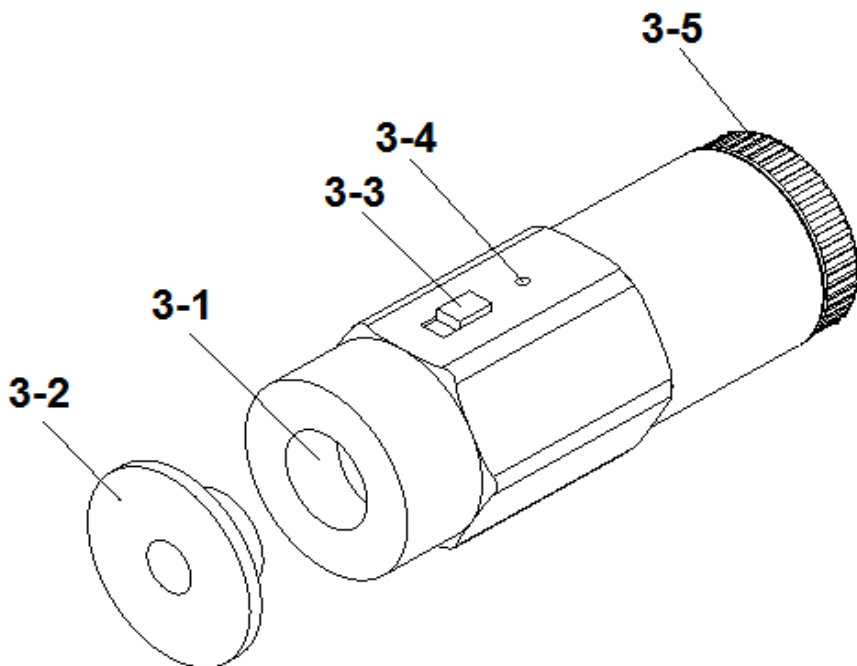

Fig. 1
- 1) If the calibrated " SOUND LEVEL METER " used the 0.5" microphone, then on the " Couple Section " (3-1, Fig. 1) should install the " 0.5" Mic. Adapter " (3-2, Fig. 1) first.
If the calibrated " SOUND LEVEL METER " used the 1 inch microphone, then on the " Couple Section " (3-1, Fig. 1) should take away the " 0.5" Mic. Adapter ".
- 4) Slide the " Off/94 dB/114 dB Switch " (3-3, Fig. 1) to " 94 dB " position if the sound level meter intend to check or be calibrated on 94 dB value.
Slide the " Off/94 dB/114 dB Switch " (3-3, Fig. 1) to " 114 dB " position if the sound level meter intend to check or be calibrated on 114 dB value.
Under the normal operation, slide " Off/94 dB/114 dB Switch " (3-3 , Fig. 1) to the " 94 dB " or " 114 dB " position, the " Power/Low Battery Indicator " (3-4, Fig. 1) will light up, then the battery voltage is normal.
- 1) Take away the " Battery Cover " (3-5, Fig. 1).